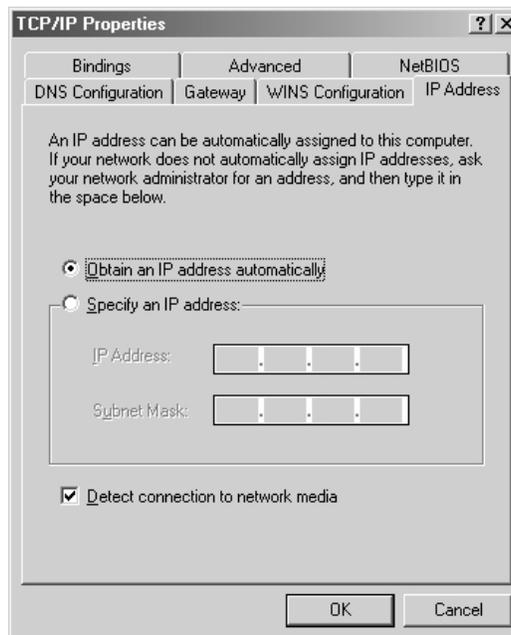

Figure 103: TCP/IP Properties
3. Select the TCP/IP entry associated with the Network Interface Card (NIC) and then select Properties. The TCP/IP Properties window appears. See Figure 103.